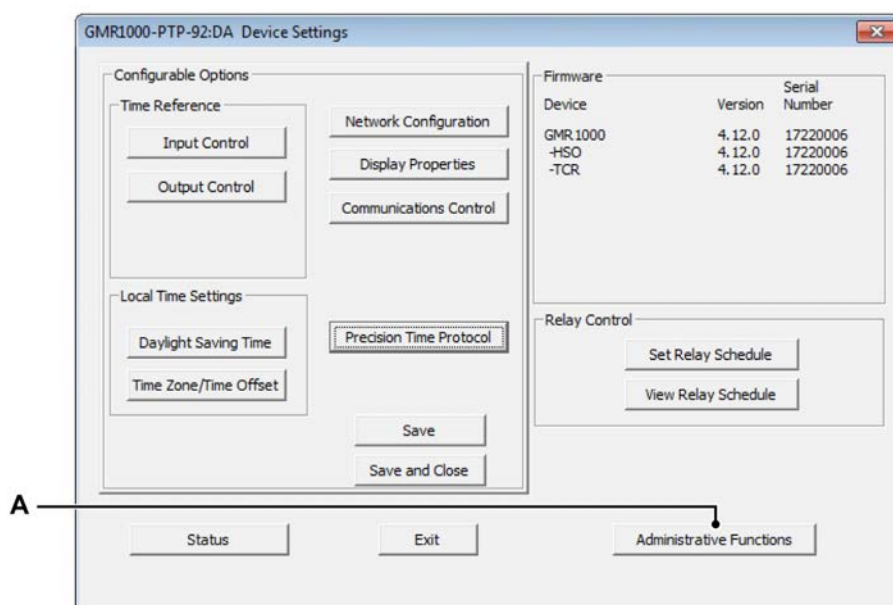

Figure C.63: GMR1000 PTP Device settings
- 7 Finally, close the Advanced (data sets) and PTP - Precision Time Protocol windows. This will bring back the GMR1000 PTP device settings window (see Figure C.63).
- 8 As the IRIG signal contains no date, this needs to be entered manually. Open the **Administrative Functions** dialog with the **Administrative Functions (A)** button (see Figure C.63).